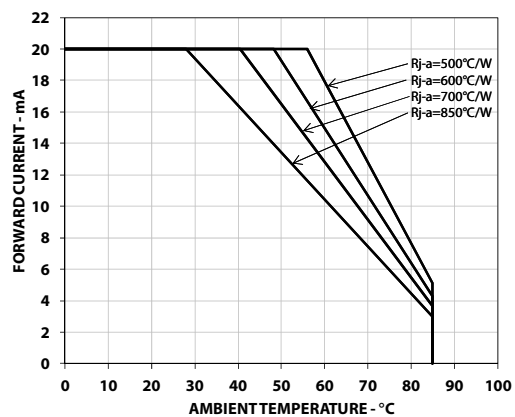

Figure 6. Derating curve
1. Derate as shown in Figure 6.